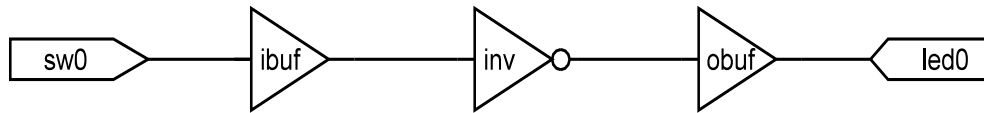

Figure 1
- Task 1) Implement the circuit in figure 1 to learn the Xilinx tool flow.
Follow the handout that details schematic driven design using the Xilinx ISE program to implement the circuit in Figure 1. Use switch 0 (SW0) as input, invert the signal, and display it on LED 0. Flipping SW0 should turn LED 0 on/off. The purpose is to learn to use the Xilinx tools. The schematic will look something like this (next page):